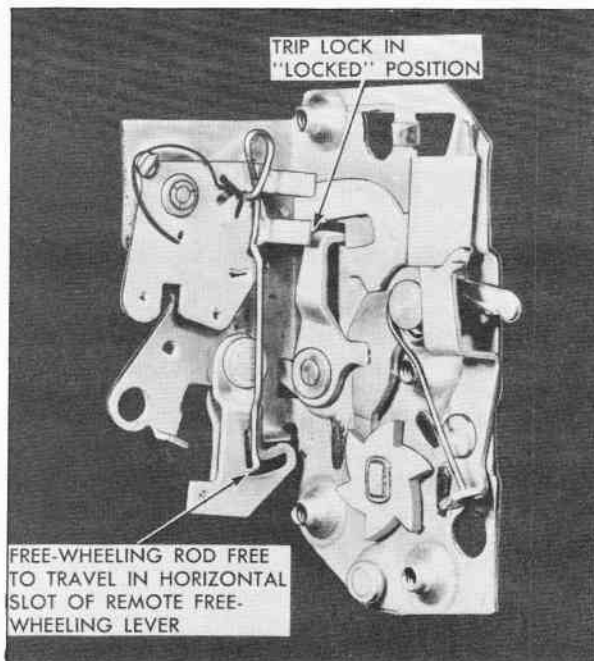

Fig. 6 Rear Door Lock in Locked Position
- a. Place trip lever in down (locked) position. In this position, the lower end of free-wheeling rod is free to travel in horizontal slot of remote free-wheeling lever. (See Fig. 6)